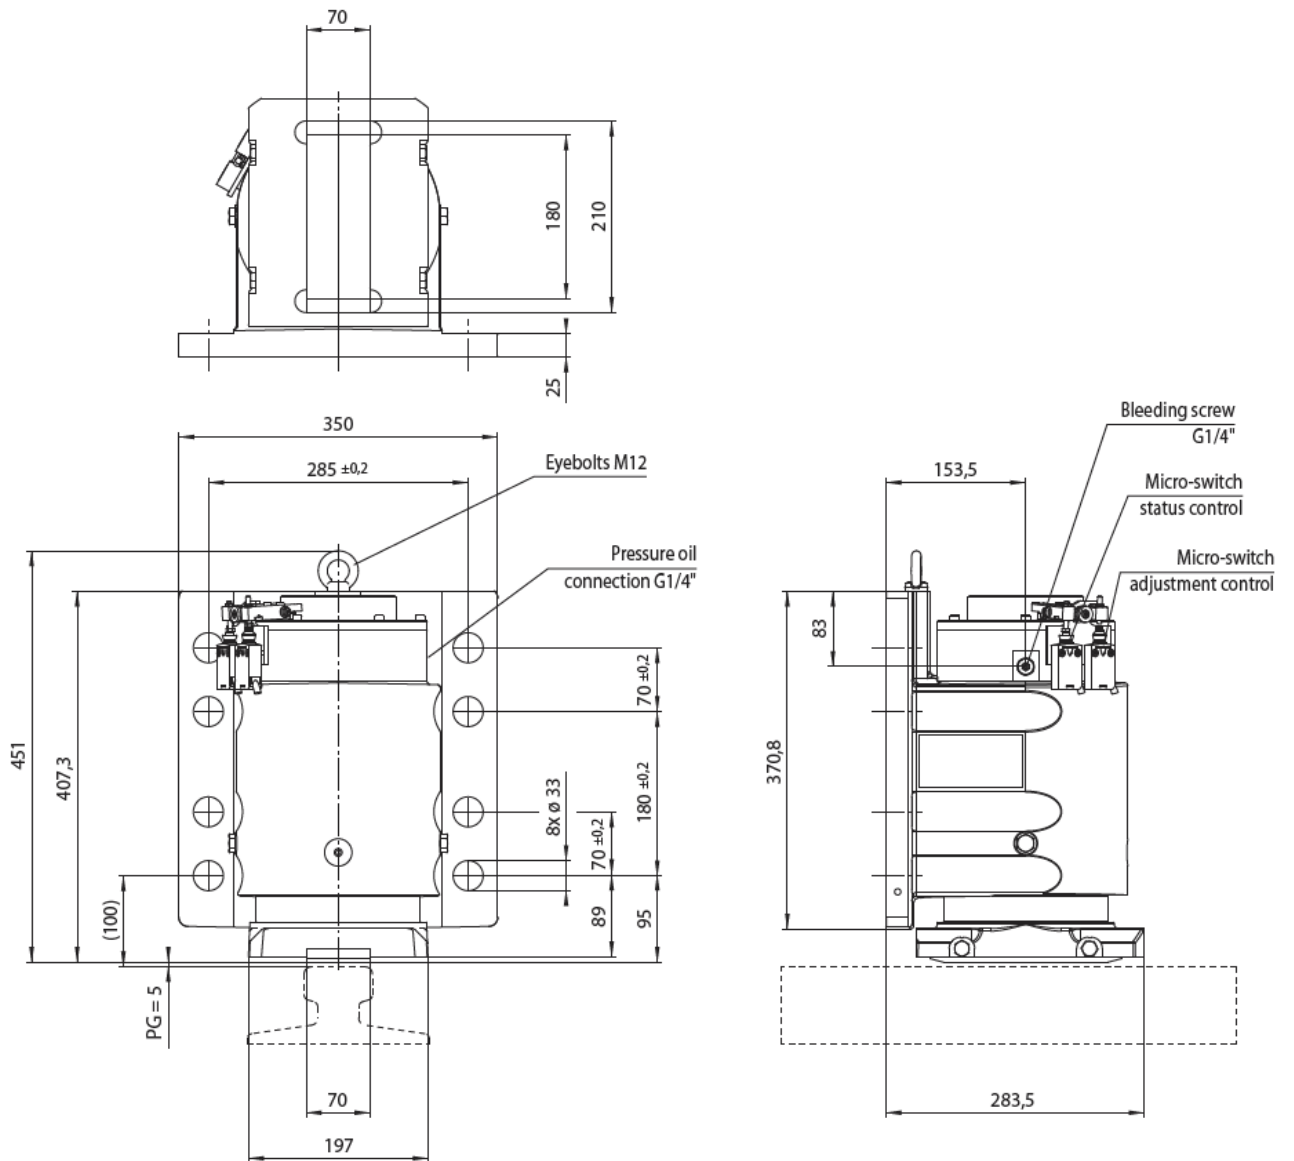
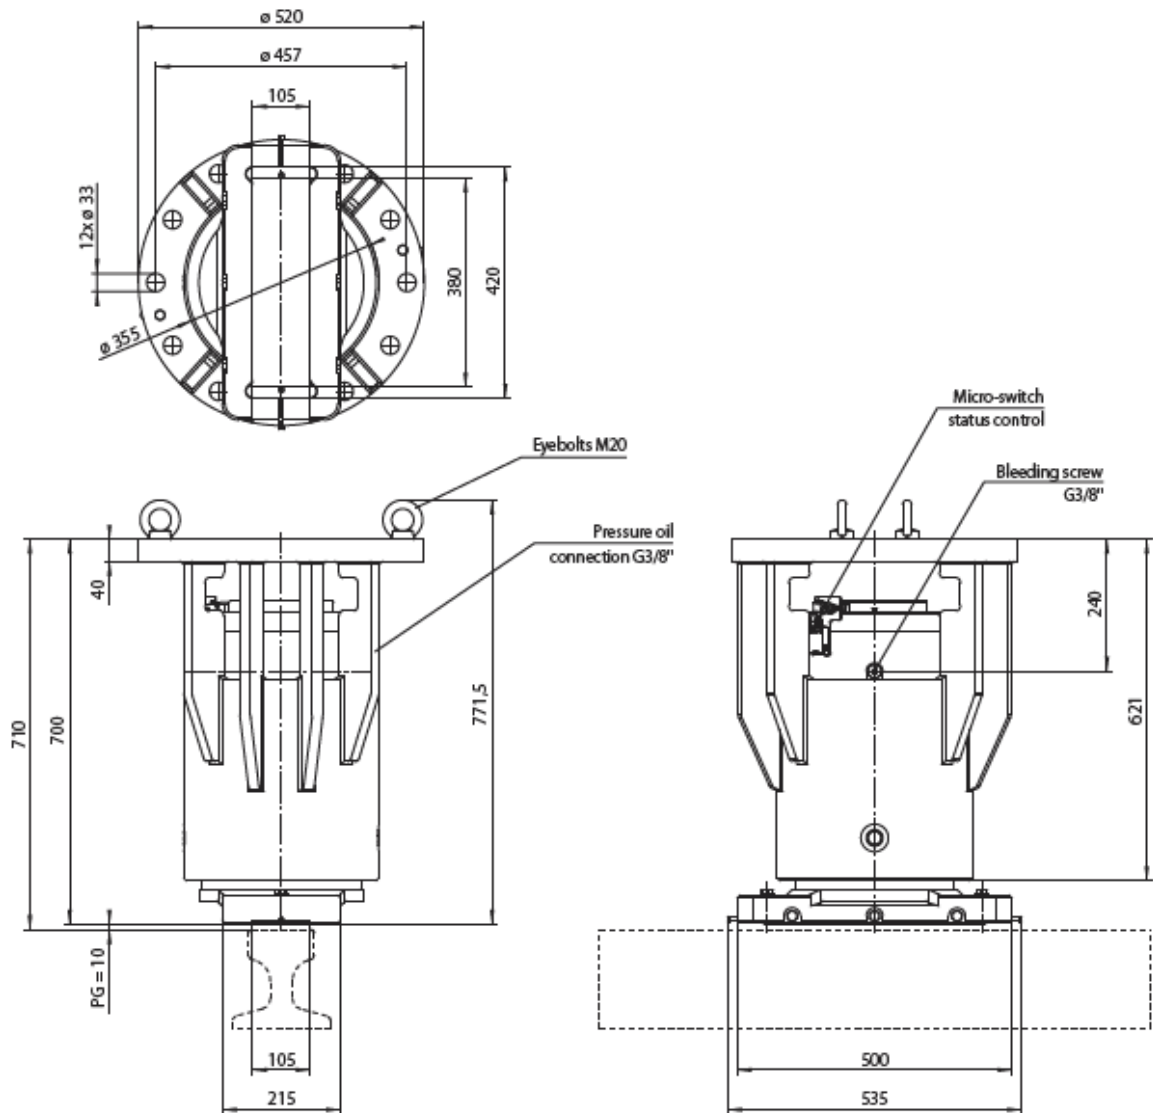

Fig. 2.1
Fig. 2.2
Put the assembly in position on the rail, raising it with lifting eyes Fig 2.1 and Fig. 2.2.
4. Rail brake HR 130 Observe the spacer dimensions indicated and the dimension of 100+/-2.5mm see Fig. 2.1.
5. Rail brake HR 185 Observe the spacer dimensions indicated and the dimension of 710+/-2.5mm see Fig. 2.2.
Rail brake HR 130 FHM G1/4" see Fig. 2.1 or
Rail brake HR 185 FHM G3/8" see Fig. 2.2.